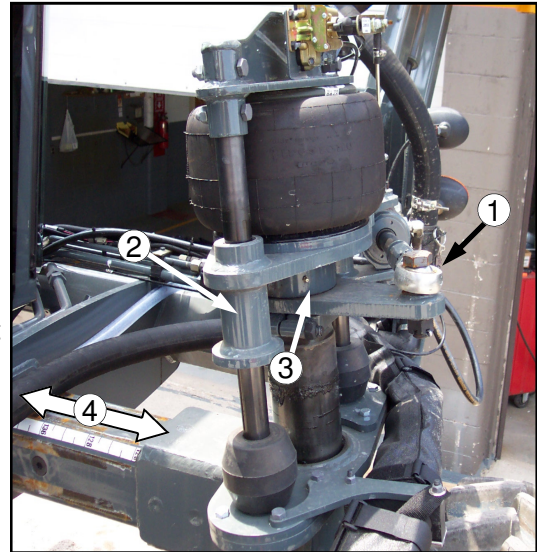

FIG. 6.14-1
LEGS AND STEERING– The front legs have a grease zerk in the tie rod ball (figure 6.14-1, item 1) that needs greased every 50 hours or weekly.
Both the front and rear legs have two grease zerks, one in each of the tower bearings (figure 6.14-1, item 2) that must be greased every 50 hours or as necessary. There is a zerk in the collar (figure 6.14-1, item 3) that also needs greased every 50 hours or as necessary.
The slide path of the tread adjust (figure 6.14-1, item 4) should be greased every 50 hours depending on the amount of usage.